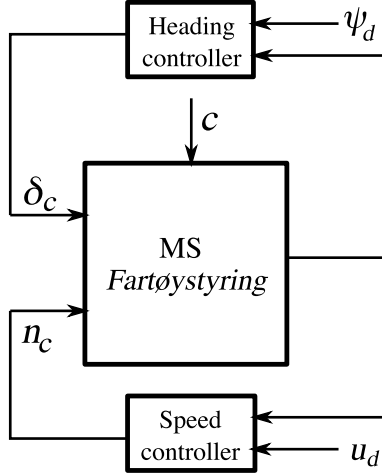

Figure 3: Controller structure for Section 1.
**Task 1.3.** Design a control law that enables you to follow constant or slow time-varying reference signals (see Figure 3). The controller must work in the presence of current. Justify your choice of controller and argue for why it works in the presence of current. Write down the controller structure and implement it in Matlab/Simulink. Does the controller have any limitations?
**Task 1.7.** Design a control law that ensures you can follow constant or slow time-varying surge speed commands (see Figure 3). The controller must work in the presence of current. Justify your choice and argue for why it works in the presence of current. Write down the controller structure and implement it in *Matlab/Simulink*. Does the controller have any limitations?